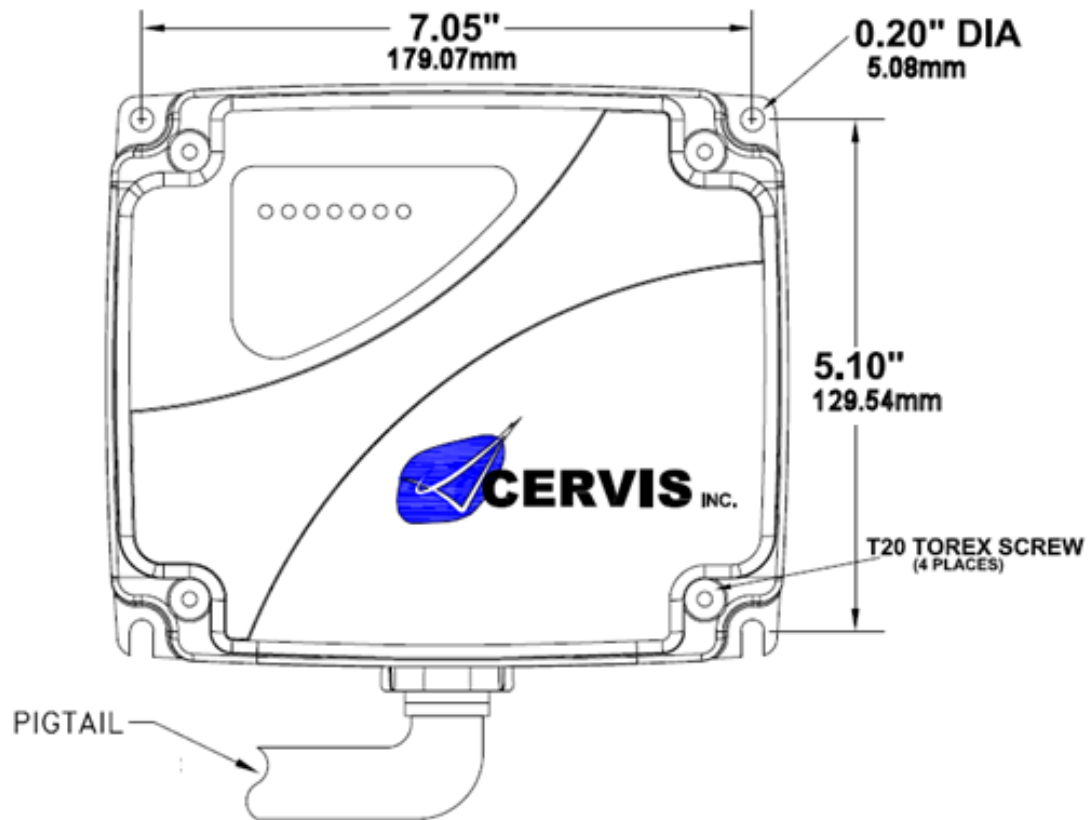

Figure 30. Receiver Footprint
2. Bolt the receiver to the machine it will control. Use the recommended hardware to attach the receiver if possible (see Figure 30).
✓ **Note:** The R70MR11 has mounting holes at the top corners and slots near the bottom two corners of the backplane (instead of holes) as shown in Figure 30.